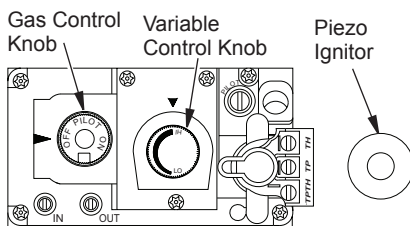

Figure 60 - Control Valve
4. Push in gas control knob slightly and turn clockwise to "OFF" (see Figure 60).
5. Wait five (5) minutes to clear out any gas. Then smell for gas, including near the floor. If you smell gas, **STOP!** Follow "B" in the safety information above. If you don't smell gas go to the next step.